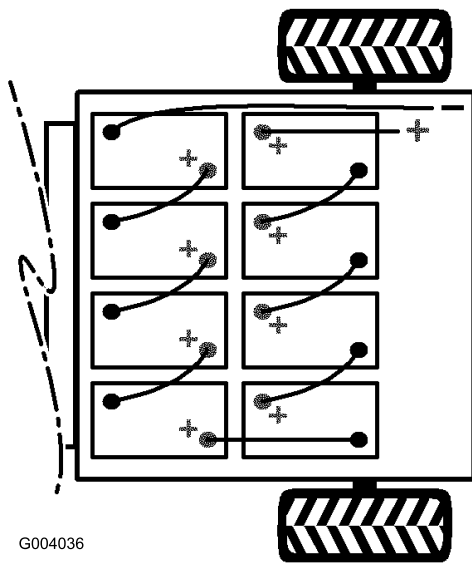

Figure 38
2. Disconnect the main negative-battery cable (black) that connects the bank of batteries to the ground point of the machine (Figure 38).
3. Disconnect the main positive-battery cable (red) that connects the bank of batteries to the main fuse of the machine (Figure 38).
Note: Pay attention to the battery polarity when installing the new batteries (Figure 38).
6. Connect the batteries together as shown in Figure 38 with the battery-interconnect cables that you removed in step 1.
1. Connect the main positive-battery cable (red) that between the bank of batteries and the machine (Figure 38).
2. Connect the main negative-battery cable (black) between the bank of batteries and the machine (Figure 38).